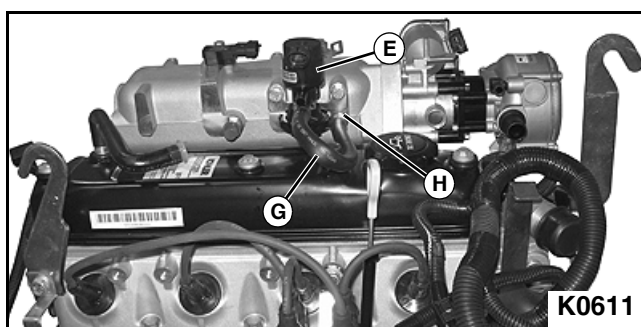

Figure 3-100
4. Push fuel control valve (E) straight down onto fuel control valve mounting bracket. **See Figure 3-100.**
5. Connect fuel control valve vacuum hose (G) to intake manifold port (H).